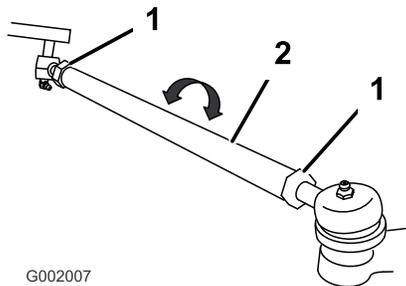

Figure 49
5. If the measurement does not fall within the specified range, loosen the jam nuts at both ends of the tie rods (Figure 49).